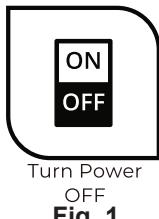

Fig. 1
01. Turn off the switch and circuit breaker before installing the LED luminaire (see fig.1).